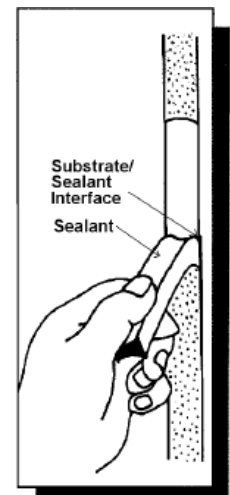

Figure 1
3. Grasp the 3-inch piece of sealant firmly 1-inch from its bonded edge and slowly pull at a 90-degree angle (**see Figure 1**).